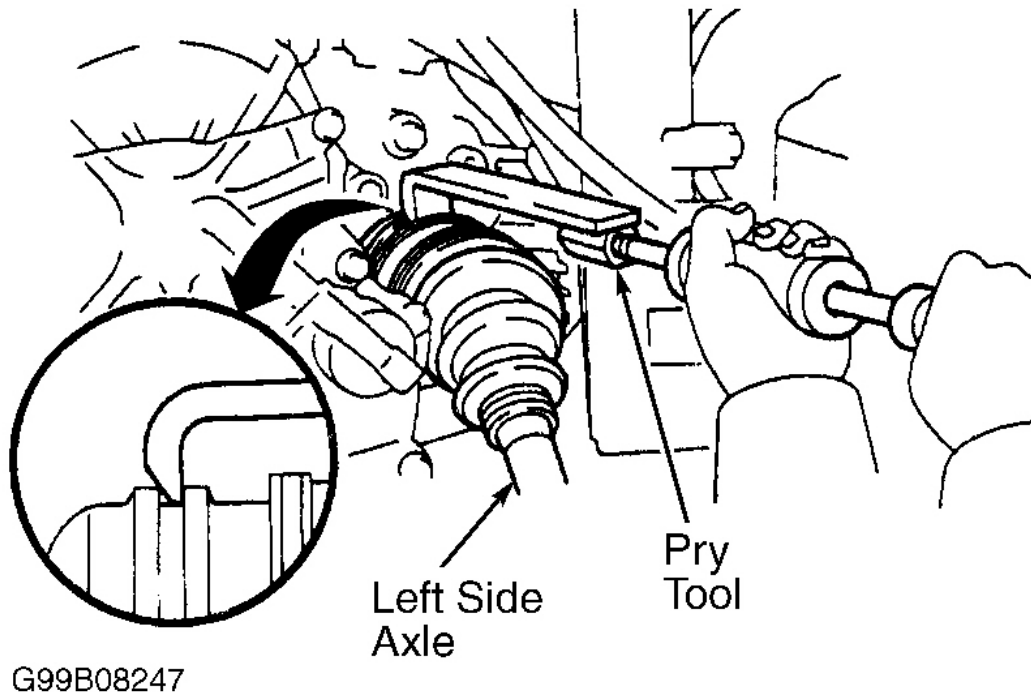

Fig. 5: Removing Left-Side Axle Shaft (AWD)
5. To remove left-side axle shaft on AWD, remove air cleaner and transaxle case protector. Using an appropriate pry bar, pry axle from transaxle assembly. See **Fig. 5** . Slide axle shaft toward steering knuckle until free of transaxle assembly.